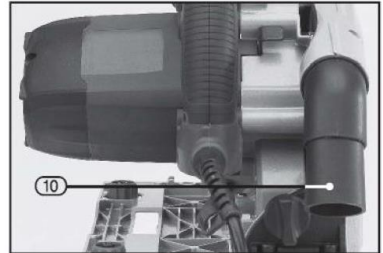

FIG.6
11.2 Dust extraction (Fig. 6)
- Inhalation of dust particles can be detrimental to health. The dust outlet (10) must be connected with a dust extraction machine.